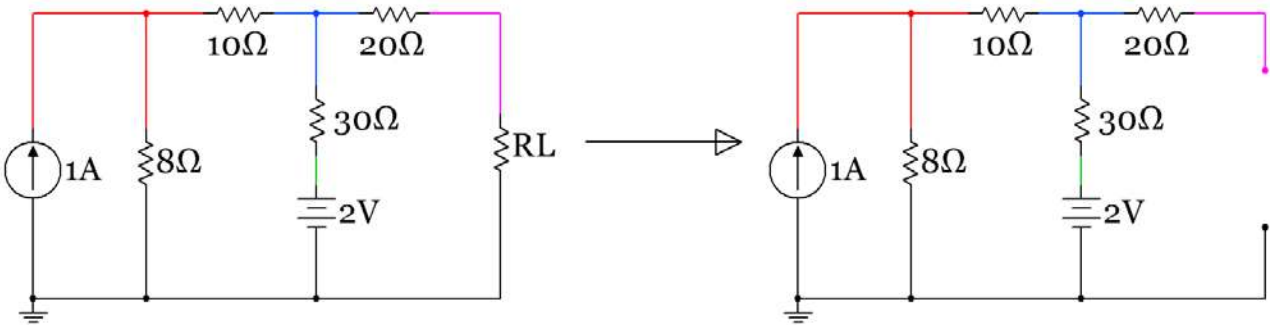
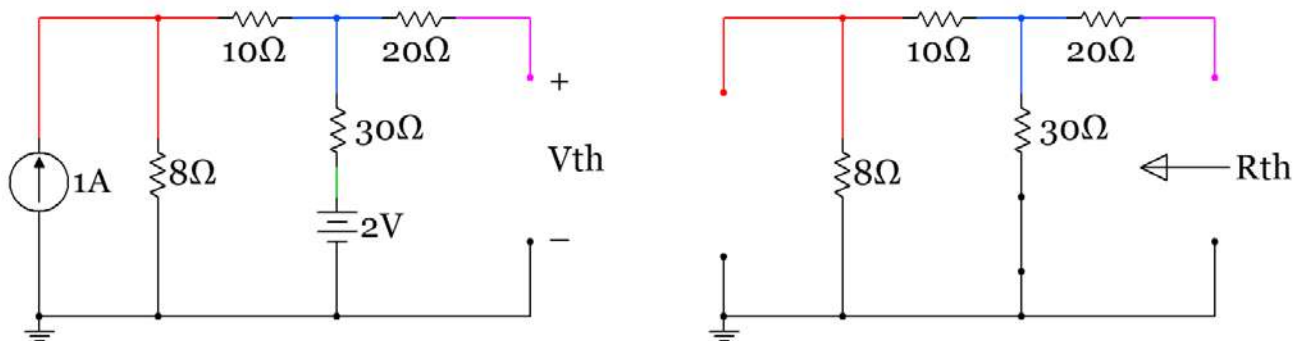
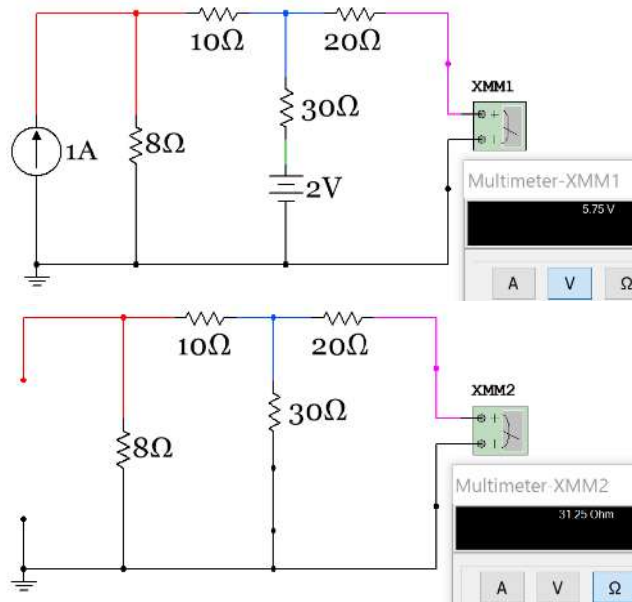

Figure 2.42: First step when asked to find the Thevenin equivalent circuit “external to RL”
Figure 2.43: Sub-problem 1 (Find V_{th} – left circuit), Sub-problem 2 (Find R_{th} – right circuit)
Figure 2.44: Multisim used to measure V_{th} (5.75 V) and R_{th} (31.25 Ω)
The reason finding the Thevenin equivalent circuit is an important circuit technique is that it allows a complicated circuit with multiple voltage and/or current sources and as many resistors as imaginable to be replaced with one independent source and one resistor (in either Thevenin or Norton form). There is usually not a need to solve for the Norton equivalent circuit because it is just as easy to just find the Thevenin equivalent circuit and then transform it to Norton form using the simple method explained in section 2.1. You can find the Thevenin equivalent circuit “external to” a specific resistor in a circuit by first removing that resistor from the circuit as shown in Figure 2.42.
1. **Find Rth** (or R_n) by “zeroing out” all sources (short voltage sources & open current sources) and combine resistors towards the spot in the circuit (i.e. where R_L was removed in Figure 2.42) where you are finding the Thevenin equivalent circuit “external to” as shown in Figure 2.43.
2. **Find Vth** by calculating the open circuit voltage across the spot in the circuit where you are finding the Thevenin equivalent circuit “external to” as shown in Figure 2.43.
Multisim can be used to determine V_{th} and R_{th} by using Multimeters in Volts and Ohms mode respectively. Figure 2.44 shows how to set up the measurements in Multisim.
Example 2.18) determine the Thevenin equivalent circuit external to R_L in Figure 2.43 by calculating V_{th} and R_{th} and compare the results to those measured by Multisim in Figure 2.44.
Sub-problem 1 – Find R_{th} by combining resistors in a similar fashion as done in section 1.2. In Module 1 you were advised to start with combining the resistors as far away from the voltage or current source as possible. For Thevenin equivalent circuit problems you should start with combining resistors as far away from the spot in the circuit where the R_{th} is to be found (as shown by the arrow in Figure 2.43). The following figure shows how R_{th} is calculated with the circuit redrawn each time a resistor is combined. As shown in Module 1 if you become skilled in combining resistors you could write the equation for R_{th} by inspection as: $R_{th} = [(8+10) \parallel 30] + 20 = 31.25 \Omega$
Sub-problem 2 – Find V_{th} by solving for the open circuit voltage shown in Figure 2.43. The easiest way to do this is to transform the 1A current source to a voltage source so a one loop circuit is left. Notice that the 20Ω resistor is in series with an open circuit so it has no effect on V_{th} (No current flowing through it means no voltage drop across it). The 20Ω resistor only has an effect on R_{th} in this circuit. The following figure shows the circuit transformed and the 20Ω resistor removed since it has no effect on V_{th} .